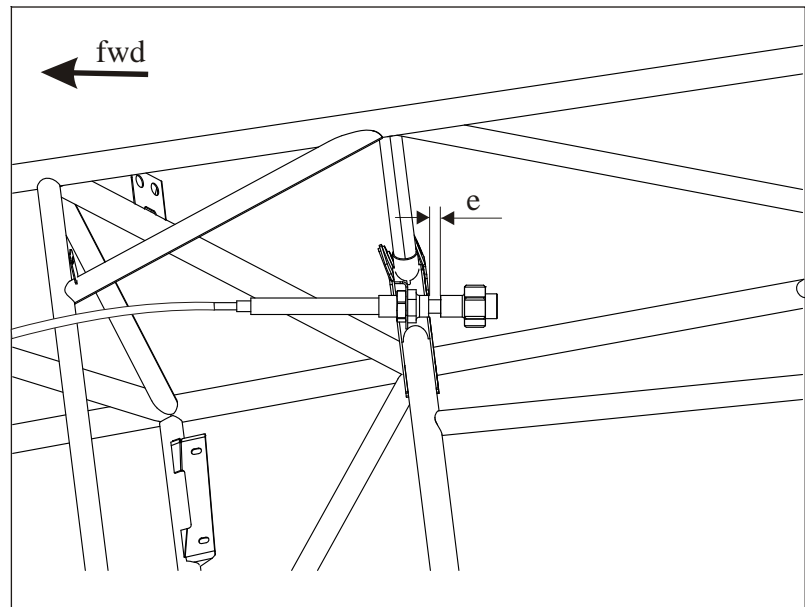

Figure 7 Over-travel at Mixture Control Unit
- 2 Check that the travel stop at the mixture actuator is reached, and the over-travel of 5 mm [3/16"] (tolerance +/-1 mm [1/32"]) is ensured at the mixture control knob (see distance "e" on Figure 7).